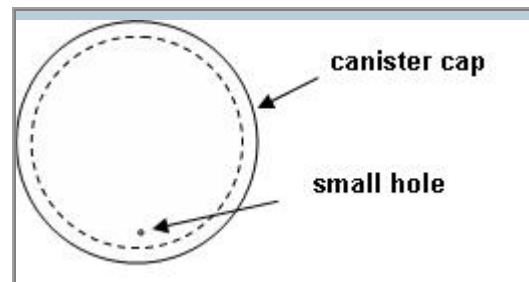

Figure 3. Canister cap with hole
4. Use a pin to poke a small hole into each film canister lid. The smaller, the better, and as close to the edge as possible without hitting the seal (see Figure 3) is best.